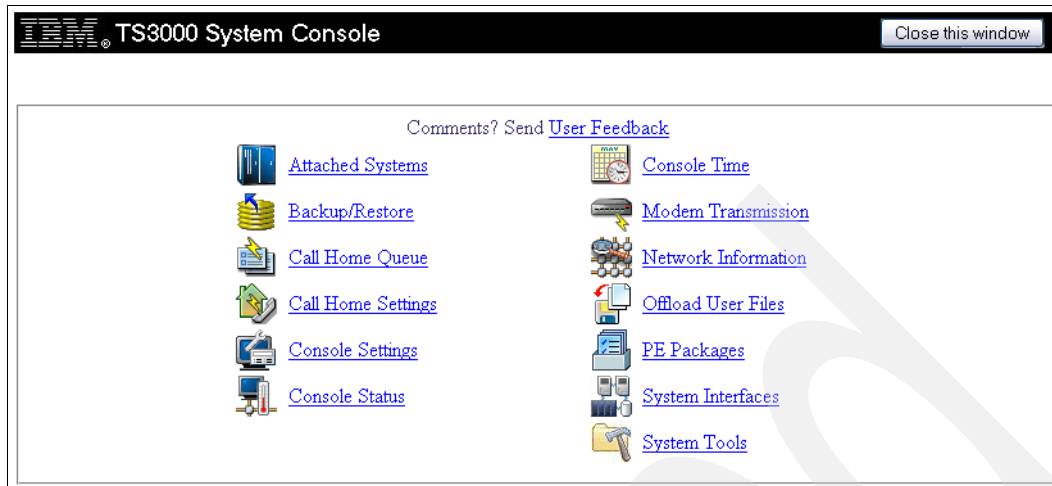
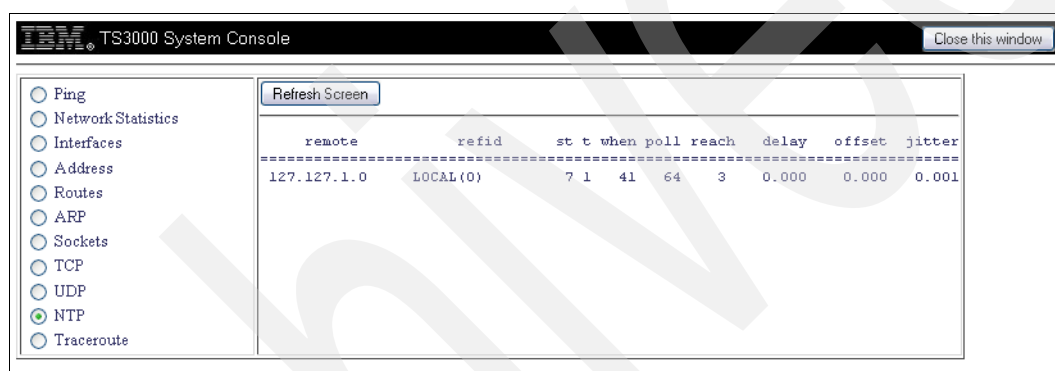

Figure 6-6 TSSC console configuration
Figure 6-10 TSSC network information
The Console Configuration application starts and the Console Configuration utility panel displays. See Figure 6-6 on page 97.
6. Verify that the NTP service is running by selecting **Network Information** on the main menu of the Console Configuration Utility window; see Figure 6-6 on page 97. Select **NTP** from the button on the left side of the panel; see Figure 6-10.